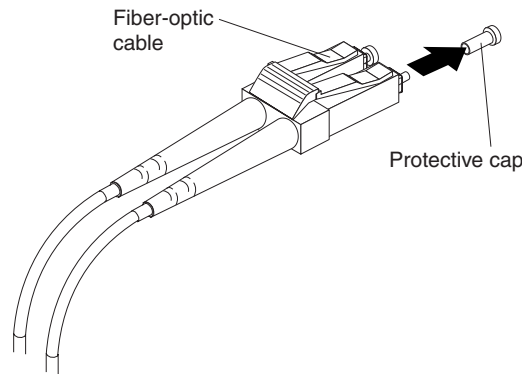

Figure 31. Removing fiber-optic cable protective caps
3. Remove the two protective caps from one end of the LC-LC cable, as shown in Figure 31. Save the protective caps for future use.
5. Remove the two protective caps from the other end of the LC-LC cable, as shown in Figure 31 on page 40. Save the protective caps for future use.